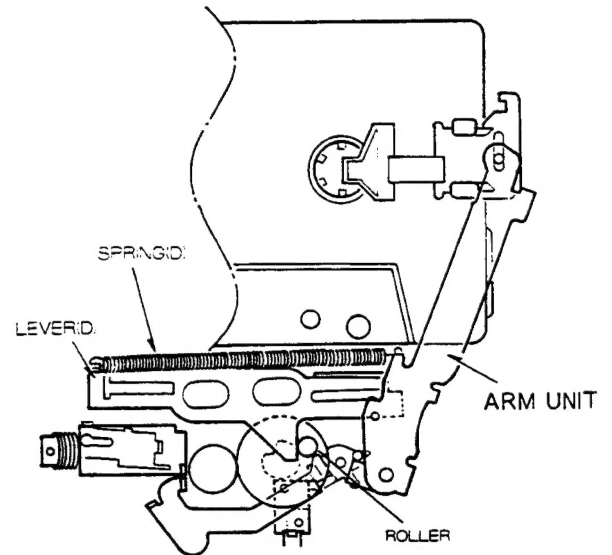

Fig. 29
- (2) Upon completion of push-up of a tape cassette, the gear (B) pushes the lever (D) by roller to move it to the left. The lever (D) is connected with an arm unit via spring (D) and pushed out the tape cassette. (Figs. 29 and 30)